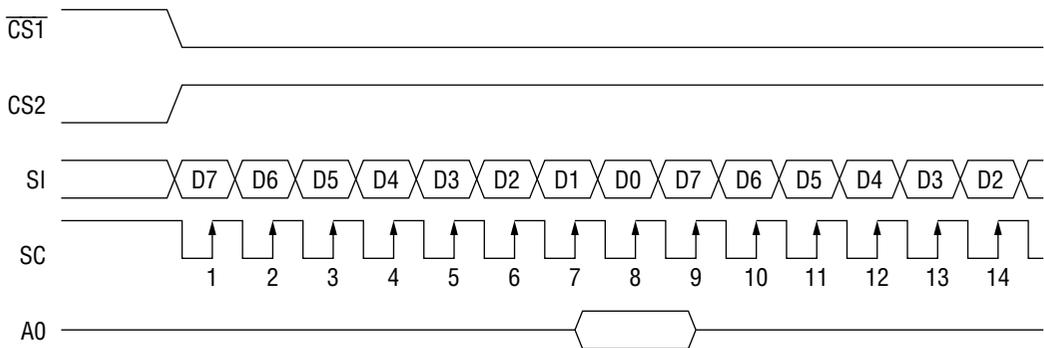

Figure 1
When the serial interface is selected ($P/\overline{S} = "L"$), the serial data input (SI) and the serial clock input (SCL) can be accepted if the chip is in the active state ($\overline{CS1} = "L"$ and $CS2 = "H"$). The serial interface consists of an 8-bit shift register and a 3-bit counter. The serial data is read in from the serial data input pin in the sequence D7, D6, ..., D0 at the rising edge of the serial clock input, and is converted into parallel data at the rising edge of the 8th serial clock pulse and processed further. The identification of whether the serial data is display data or command is judged based on the A0 input, and the data is treated as display data when A0 is "H" and as command when A0 is "L". The A0 input is read in and identified at the rising edge of the $(8 \times n)$ th serial clock pulse after the chip has become active. Fig. 1 shows the signal chart of the serial interface. (When the chip is not active, the shift register and the counter are reset to their initial states. No data read out is possible in the case of the serial interface. It is necessary to take sufficient care about wiring termination reflection and external noise in the case of the SCL signal. We recommend verification of operation in an actual unit.)